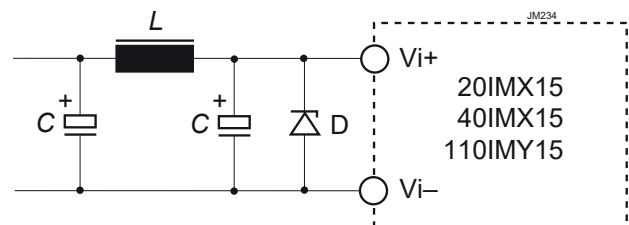

Fig. 6
⁴ Double-output models with both outputs in parallel. External filter as in fig. 6, table 6.
- ⁴ Double-output models with both outputs in parallel. External filter as in fig. 6, table 6.
For very high energy transients as for example to achieve compliance to IEC/EN 61000-4-5 (see table *Electromagnetic Immunity*), an external inductor and a capacitor are required, see Fig. 6. The components are specified in table 6.